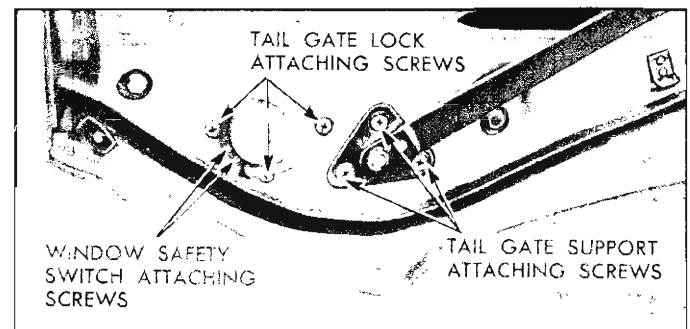

Fig. 38—Tail Gate Lock and Support
7. Suitably support tail gate to facilitate detachment of tail gate supports, then remove support attaching screws (fig. 38) from both sides of tail gate and fold supports against body.